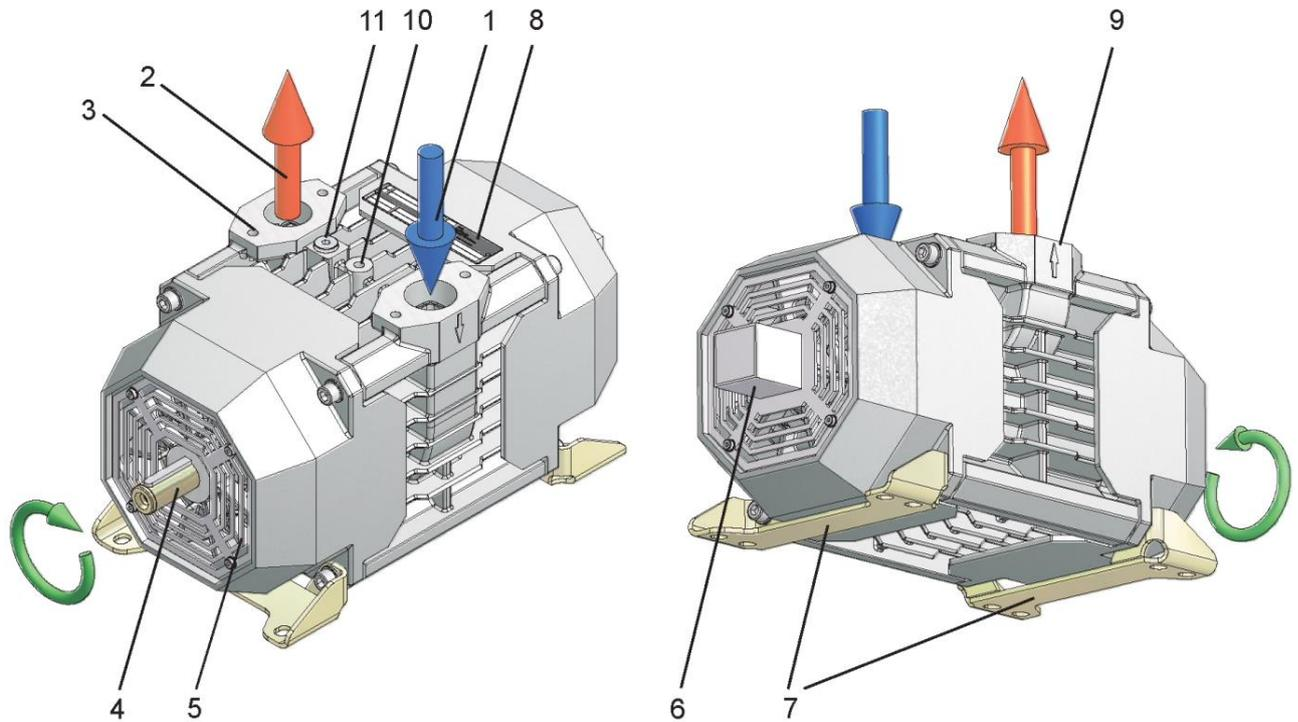

Fig. 2: Design
To change the sense of rotation, swap the shaft protection grids (see Fig. 2, pos. 5 and pos. 6). Tightening torque of the 4 attachment screws: 4.5 Nm.